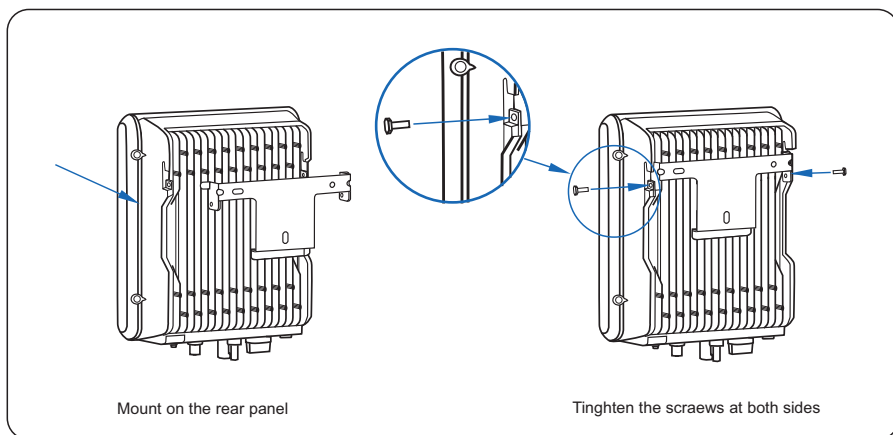

Figure 4.14 Securing the inverter
Step 2 Mount the inverter on the rear panel and keep them aligned with each other, as shown in Figure 4.14.
Step 3 Tighten the two hexagon screws at the both sides of the inverter to a torque of 1.2N.m and 3N.m respectively. Screw specs for Mercury 2000-3600-S0 and Mercury 4000-6000-S0 are M4 and M6 respectively, as shown in Figure 4.14.